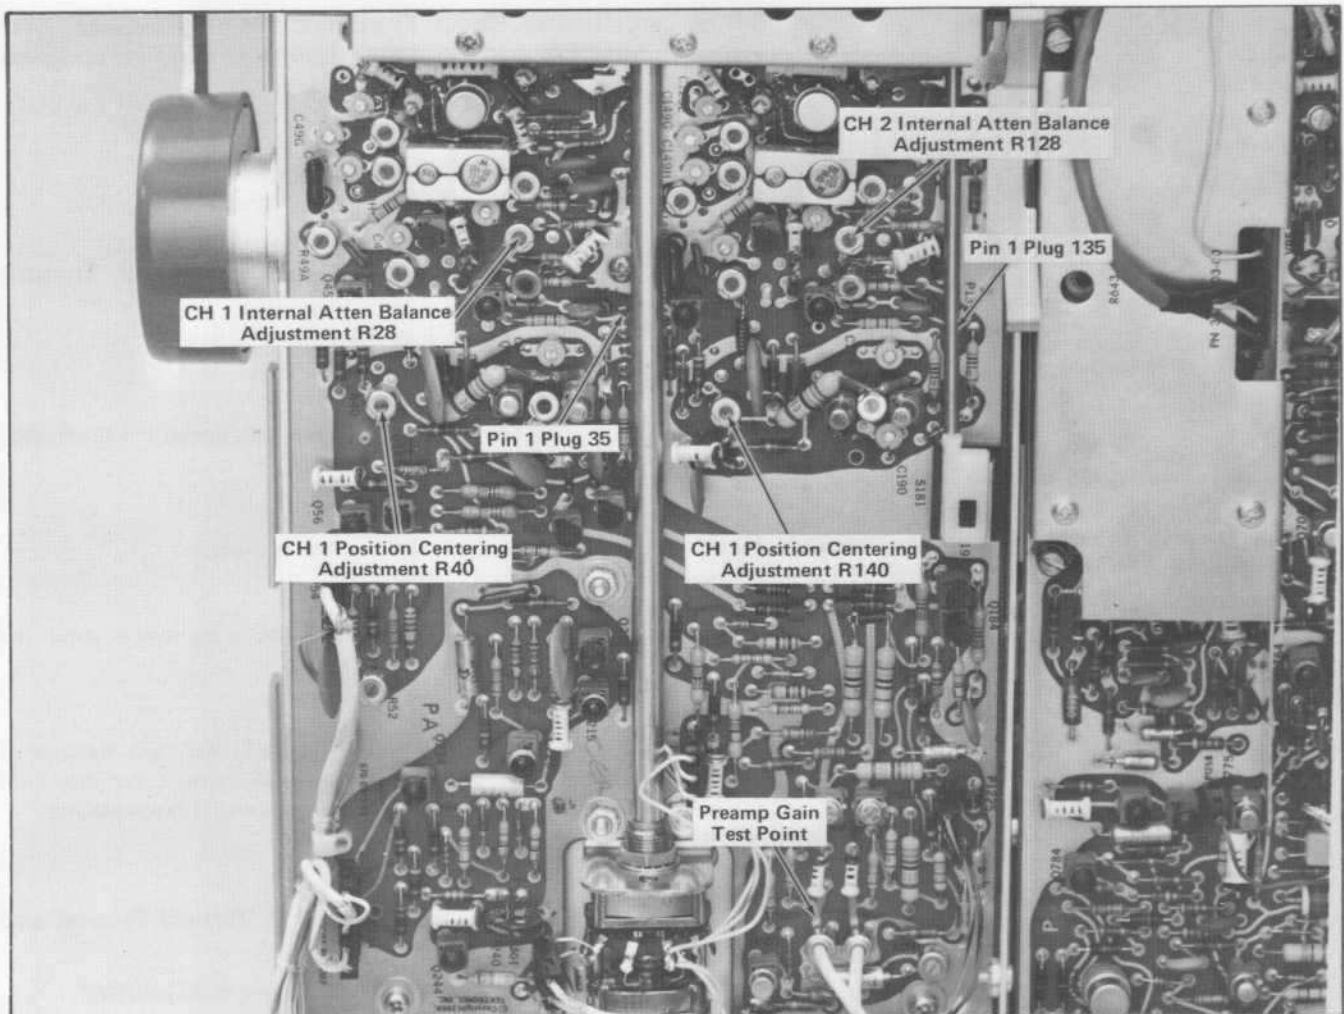

Fig. 5-7. Location of CH 1 and CH 2 Internal Atten Balance adjustments and Position Centering adjustments and test points.
- j. ADJUST—CH 2 Internal Atten Bal adjustment, R128 (see Fig. 5-7), for 0.1 division or less shift as the CH 2 VOLTS/DIV switch is changed from 10 mV to 50 mV.
m. ADJUST—CH 1 Internal Atten Bal adjustment, R28 (see Fig. 5-7), for 0.1 division or less trace shift as the CH 1 VOLTS/DIV switch is changed from 10 mV to 50 mV.
a. Connect the precision DC voltmeter between pin 1 of Plug P35 on the Vertical Preamp circuit board (see Fig. 5-7) and ground.
e. ADJUST—CH 1 Position Center adjustment, R40 (see Fig. 5-7), to position the trace to the center horizontal line.
g. Connect the precision DC voltmeter between pin 1 of plug P135 on the Vertical Preamp circuit board and ground (see Fig. 5-7).
j. ADJUST—CH 2 Position Center adjustment, R140 (see Fig. 5-7), to position the trace to the center horizontal line.
g. Connect the 10X probe tip to the gain test point (see Fig. 5-7).